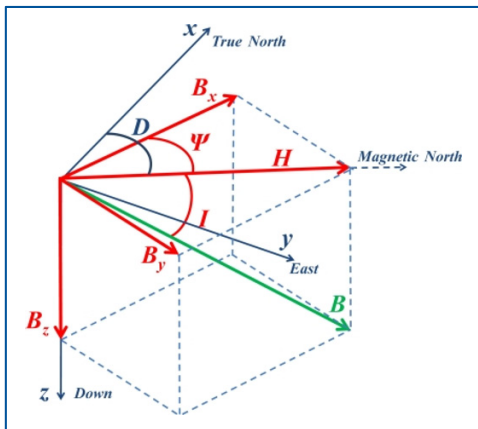

Figure 3 – Geomagnetic field Coordinate System
**Figure 3** shows the earth's magnetic field coordinate system relative to true North. The angle between True North and H is the declination angle  $D$  and the angle between the geomagnetic field  $B$  and horizontal plane is the inclination angle  $I$ .  $B_x$ ,  $B_y$ , and  $B_z$  are the three orthogonal magnetic field components. **Note** that in the Android geomagnetic coordinate system, the Z-Axis points up (toward the sky), the X-Axis points magnetic North (horizontal projection H of the geomagnetic field B), and the Y-Axis points magnetic East.